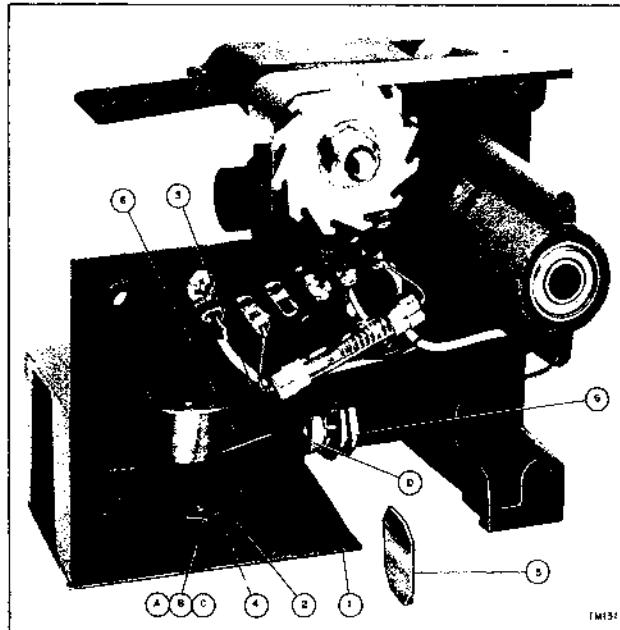

Figure 13
5. Remove four mounting screws **(A)** and **(B)** from rear of assembly and remove assembly (figure 13).